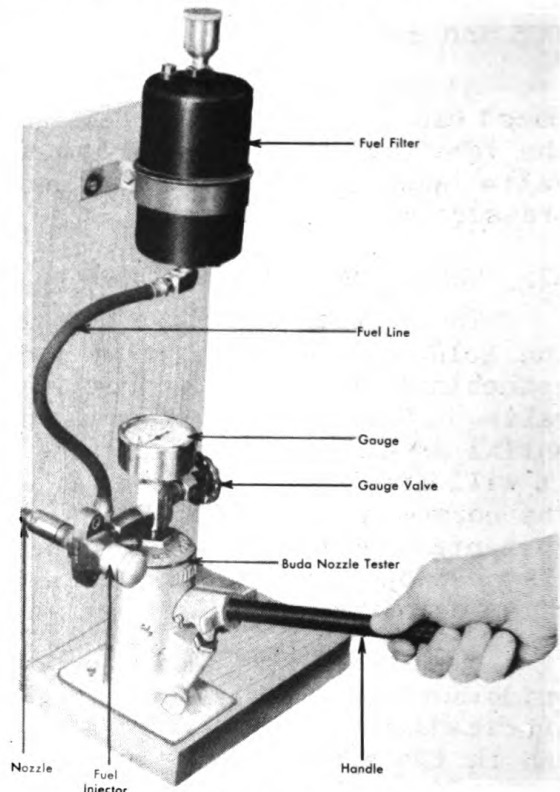

Figure 207. Operating Buda Nozzle Tester.
The Buda hydraulic Diesel nozzle tester, shown in Figure 207 is a precision instrument capable of producing 7,500 pounds of pressure per square inch. To prevent damage to the gauge of the nozzle tester, DO NOT EXCEED 3,000 POUNDS PRESSURE. The injectors or nozzles are tested for leakage, valve opening pressure, and spray pattern. **CAUTION: WHEN TESTING NOZZLE DO NOT OBSTRUCT THE OIL SPRAY AS IT LEAVES THE NOZZLE OR TRY TO RETAIN THE USED OIL. KEEP HANDS AWAY FROM SPRAY AT ALL TIMES.** Use only clean Diesel fuel or flushing oil in tank. If possible, the nozzle tester should be hooked up to a filter as shown in Figure 207 to assure clean fuel.
b. Attach the nozzle and holder assembly, as shown in Figure 207.